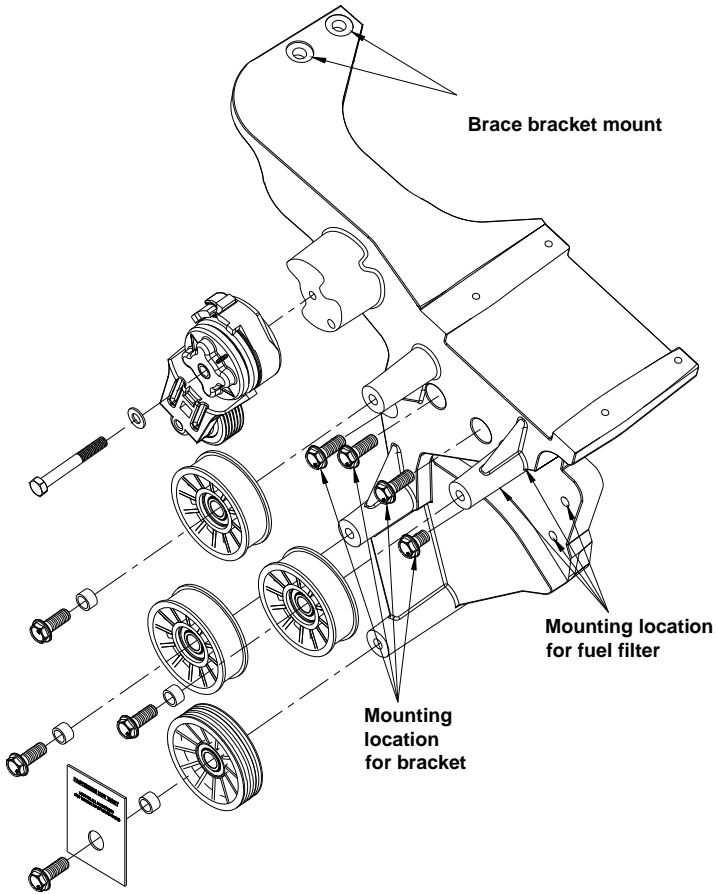

Figure 3.4
- Remove the idlers and tensioner from the main bracket (Figure 3.4). Place the main bracket in position on the front upper driver side of the engine timing cover and align the mounting holes.